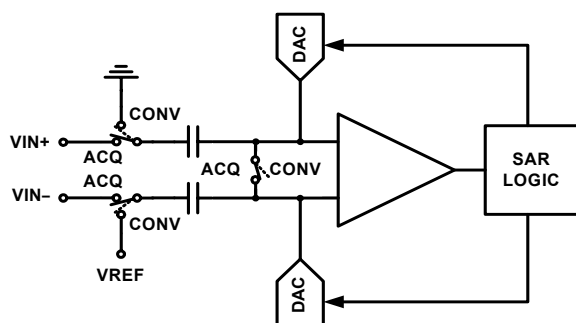

FIGURE 26. SAR ADC ARCHITECTURAL BLOCK DIAGRAM
The ISL2671286 is based on a successive approximation register (SAR) architecture utilizing capacitive charge redistribution digital-to-analog converters (DACs). Figure 26 shows a simplified representation of the converter. During the acquisition phase (ACQ), the differential input is stored on the sampling capacitors (CS). The comparator is in a balanced state since the switch across its inputs is closed. The signal is fully acquired after t_{ACQ} has elapsed, and the switches then transition to the conversion phase (CONV) so the stored voltage can be converted to digital format. The comparator becomes unbalanced when the differential switch opens and the input switches transition (assuming that the stored voltage is not exactly at mid-scale). The comparator output reflects whether the stored voltage is above or below mid-scale, which sets the value of the MSB. The SAR logic then forces the capacitive DACs to adjust up or down by one-quarter of full-scale by switching in binarily weighted capacitors. Again, the comparator output reflects whether the stored voltage is above or below the new value and sets the value of the next lowest bit. This process repeats until all 12 bits have been resolved.